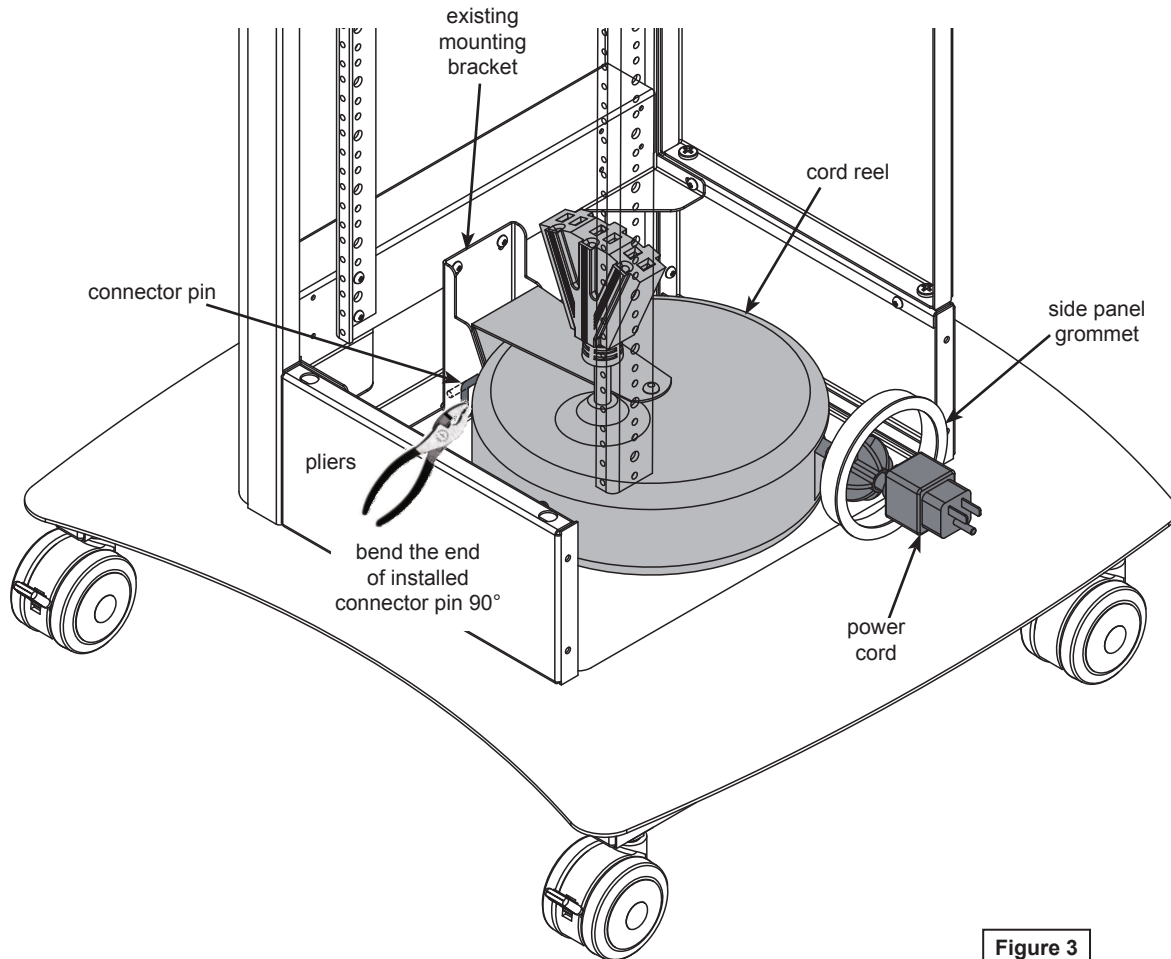

Figure 3
1. Set the cord reel into the bottom of the lectern. **Figure 3.**